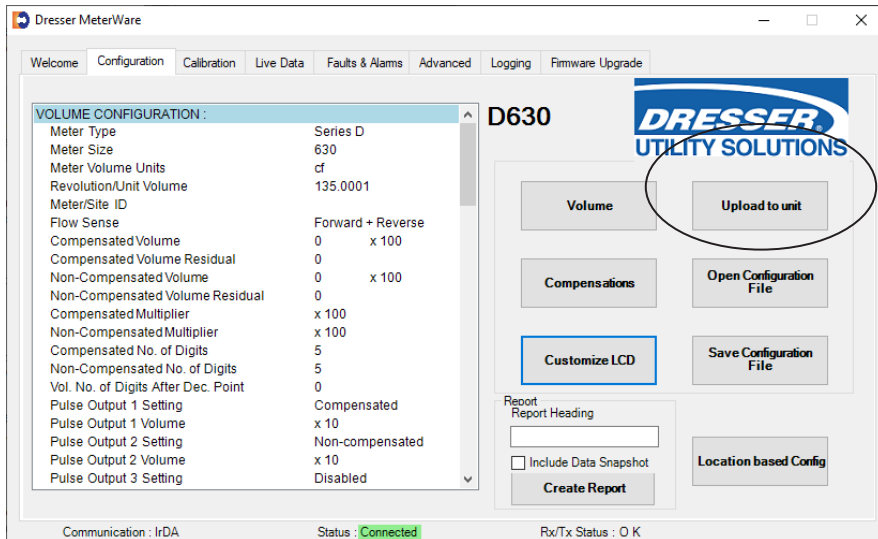

Figure 1.3 Example - Configuration screen in Dresser MeterWare
- Once back on the Configuration screen (Figure 1.3 Example), select Upload to unit.